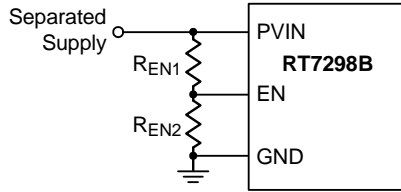
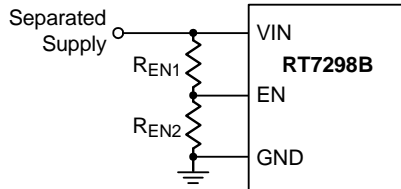
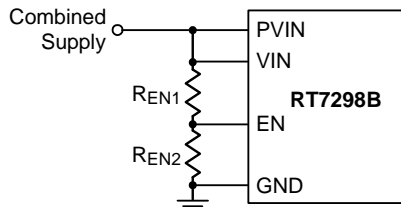

Figure 4. Resistor Divider for PVIN UVLO Setting
Figure 5. Resistor Divider for VIN UVLO Setting,
Figure 6. Resistor Divider for PVIN and VIN UVLO
The EN pin can also be applied to adjust its Under-Voltage Lockout (UVLO) threshold with two external resistors divider from the both input VIN and PVIN pins used together or separately, and the application structures can refer to Figure 4, Figure 5, and Figure 6.
Under above application structures, the adjustable UVLO function of EN pin allows to achieve a secondary UVLO on PVIN pin, a higher UVLO on VIN pin or even a common UVLO on both VIN and PVIN pins. For example, if the EN pin is configured as Figure 5 and the output voltage is set to a higher value 10V. The device may shut down after soft-start sequence is over, and the reason for the result is that the V_{OUT} is still lower than its set target during the V_{IN} rising period even though V_{IN} has already risen to its internal UVLO threshold 4V. To prevent this situation, an adjustable UVLO threshold from EN pin is useful to avoid such high output transfer condition. The exact UVLO thresholds can be calculated by Equation (3). The setting V_{OUT} is 10V and V_{IN} is from 0V to 18V. When V_{IN} is higher than 12V, the device is triggered to enable the converter. Assume $R_{EN1} = 56k\Omega$. Then,